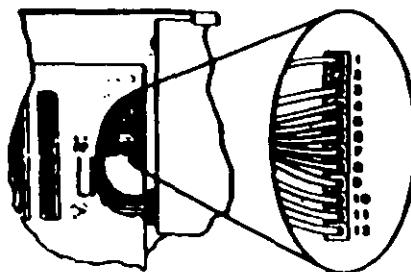

Figure 1. System Board Power Connectors
- Check for a voltage of 2.4 to 5.2 Vdc between pins 1 and 5 (ground) at the system board power supply connector. Figure 1.